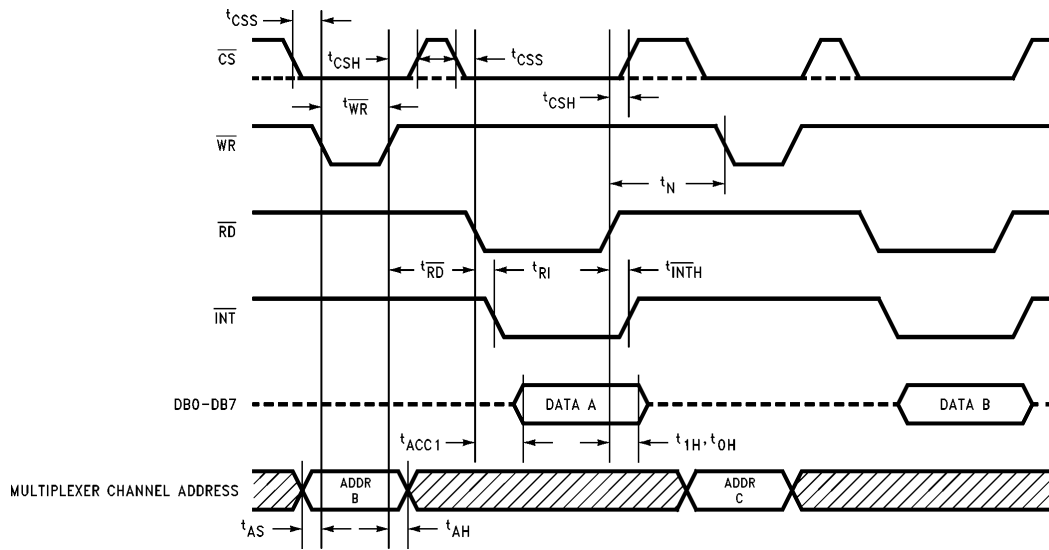
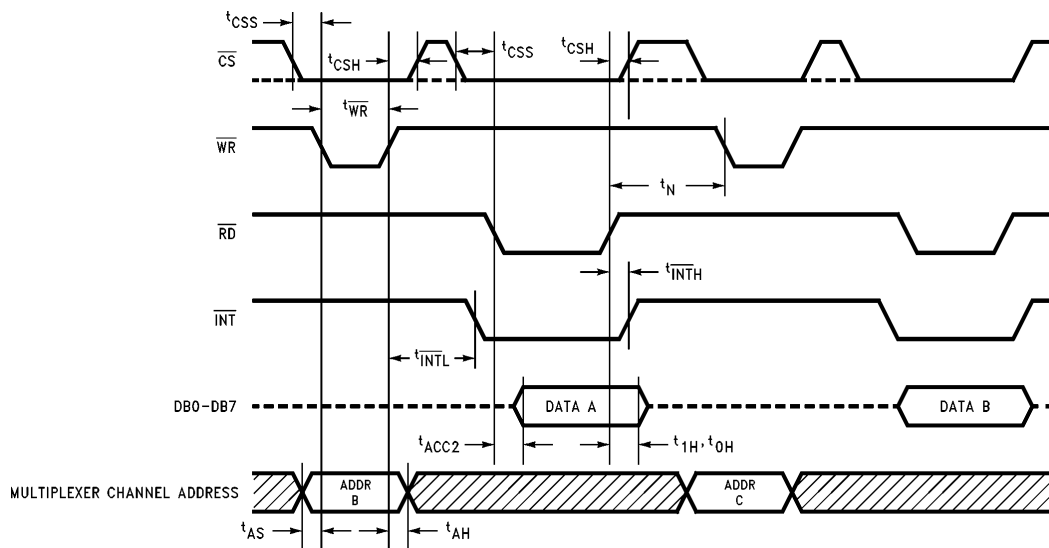

FIGURE 2a.  $\overline{WR}$ - $\overline{RD}$  Mode (Mode Pin is High and  $t_{RD} \leq t_{INTL}$ )
FIGURE 2b.  $\overline{WR}$ - $\overline{RD}$  Mode (Mode Pin is High and  $t_{RD} > t_{INTL}$ )
**$\overline{WR}$ :** With  $\overline{CS}$  low, the conversion is started on the falling edge of  $\overline{WR}$ . The digital result will be strobed into the output latch at the end of conversion (see Figures 2a, 2b, and 3).
$\overline{RD}$   **$\overline{WR}$ -RD Mode** (logic high on the MODE pin) This is the active low Read input. With a logic low applied to the  $\overline{CS}$  pin, the TRI-STATE data outputs (DB0–DB7) will be activated when  $\overline{RD}$  goes low (see Figures 2a, 2b and 3).
The ADC08061/2 is in the  **$\overline{WR}$ - $\overline{RD}$  mode** with the **MODE** pin tied high. A conversion starts on the falling edge of the  $\overline{WR}$  signal. There are two options for reading the output data which relate to interface timing. If an interrupt-driven scheme is desired, the user can wait for the  $\overline{INT}$  output to go low before reading the conversion result (see *Figure 2b*). Typically,  $\overline{INT}$  will go low 520 ns, maximum, after  $\overline{WR}$ 's rising edge. However, if a shorter conversion time is desired, the processor need not wait for  $\overline{INT}$  and can exercise a read after only 350 ns (see *Figure 2a*). If  $\overline{RD}$  is pulled low before  $\overline{INT}$  goes low,  $\overline{INT}$  will immediately go low and data will appear at the outputs. This is the fastest operating mode ( $t_{RD} \leq t_{INTL}$ ) with a conversion time, including data access time, of 560 ns. Allowing 100 ns for reading the conversion data and the delay between conversions gives a total throughput time of 660 ns (throughput rate of 1.5 MHz).